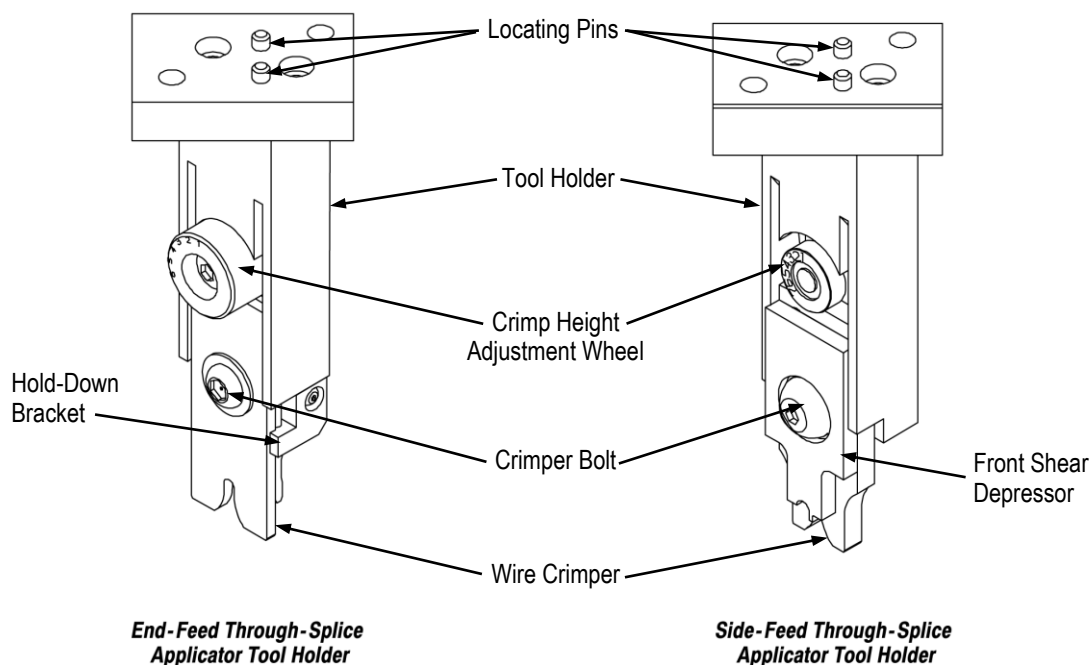

Figure 4
The tool holder is secured to the ram of the AMP 5K/40 CE Through-Splice Terminating Machine with two screws. The tool holder contains locating pins (Figure 4) to facilitate its location on the terminator ram. The locating pins allow an easier tooling changeover.
The hold-down bracket (see Figure 4) is attached to the ram and, with bracket attached, holds the terminal in place during the crimping and shearing process.
1. Position the tool holder on the bottom of the terminator ram using the two locating pins shown in Figure 4.